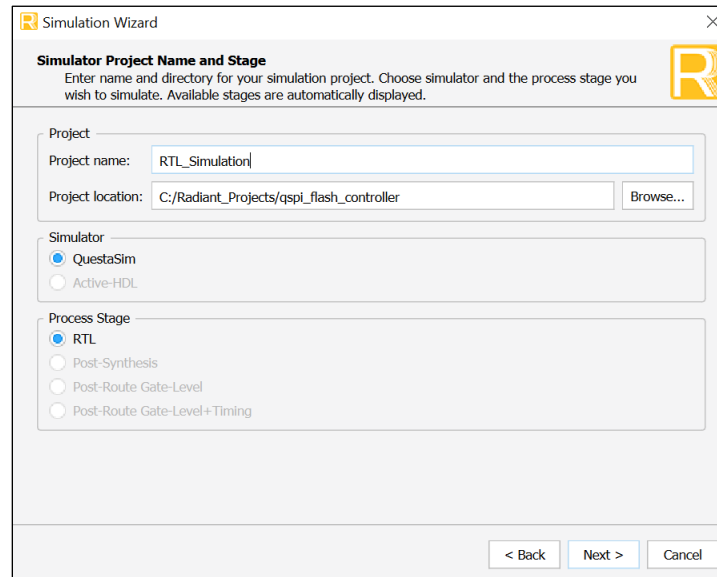

Figure 7.5. Simulation Wizard
1. Click the  button located on the **Toolbar** to initiate the **Simulation Wizard** shown in Figure 7.5.